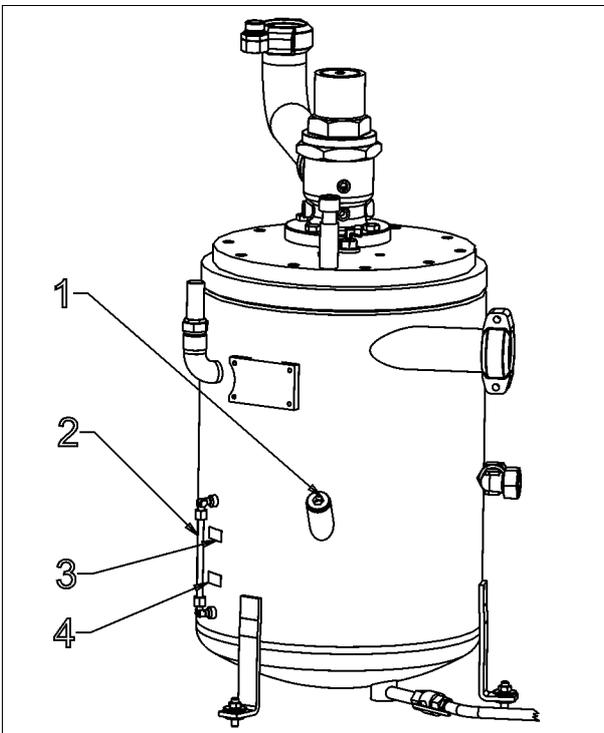

Fig. 14
- The oil level is checked with the help of the transparent plastic tube at the pressure reservoir (- 2 - Fig. 14) after every stop and at regular intervals. If required, top up oil
- The oil level must be between the maximum level (- 3 - Fig. 14) and minimum level (- 4 - Fig. 14) marked on the oil reservoir.
- Check the oil level in the pressure reservoir (see also chapter 6.5). (Fig. 14)